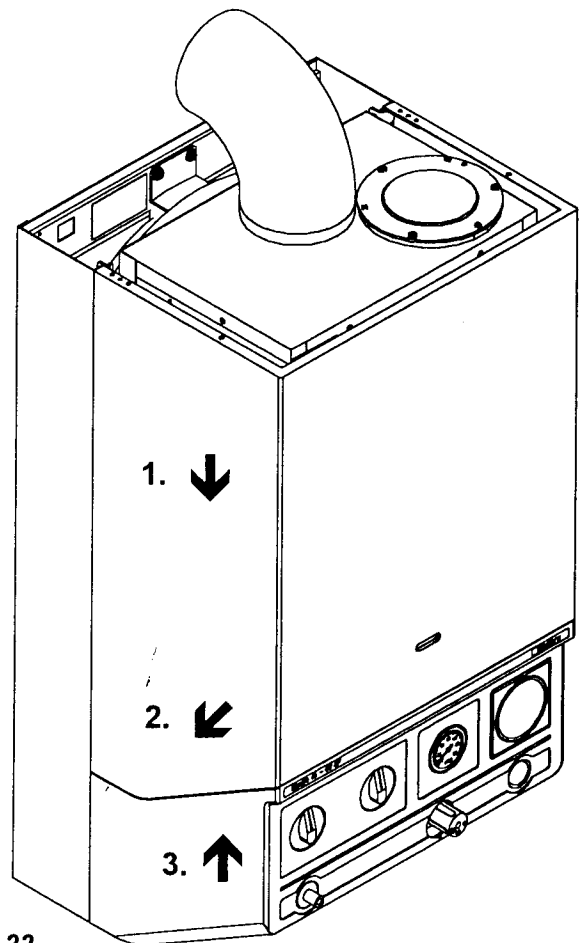

Fig. 22
6.14 REFIXING THE FRONT CASING. (Fig. 22)